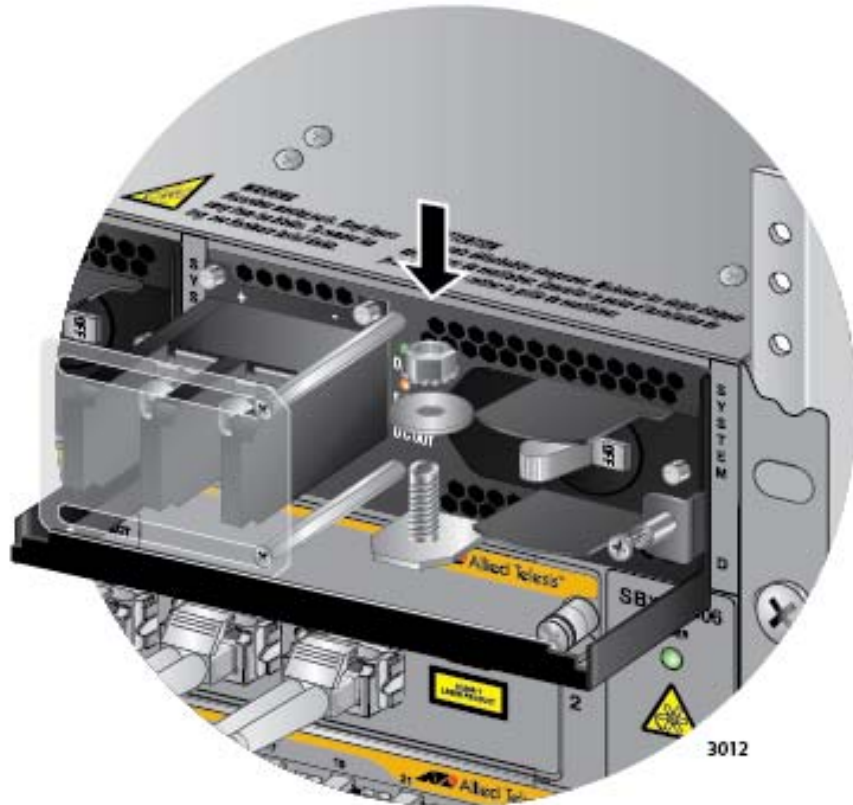

Figure 143. Reinstalling the Nut and Washer on the Grounding Post
10. Reinstall the nut and washer on the grounding post. Refer to Figure 143 on page 227.